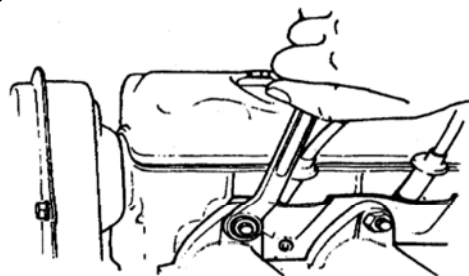

Fig. 1.4-4
(3) The tightening torque of cylinder cover bolt is 4-5 N • m (0.4-0.5kg • m).
(4) Check the fitted tightness of air intake and exhaust branch nut, and screw it to the specified torque if necessary. See Fig. 1.4-4.